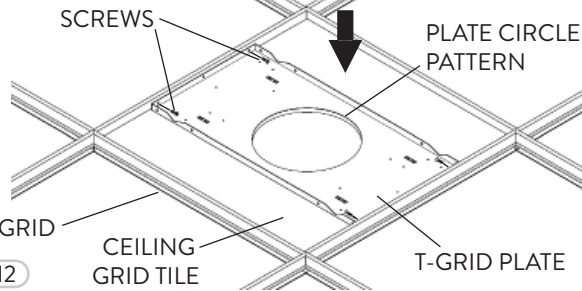

FIG. 12
- 2 Place the T-Grid Ceiling Plate on the ceiling Grid Tile. Use screws to fasten the T-Grid Ceiling Plate to the metal T-Grids (Fig. 12). Cut a hole in the ceiling Grid Tile matching the Plate circle pattern.